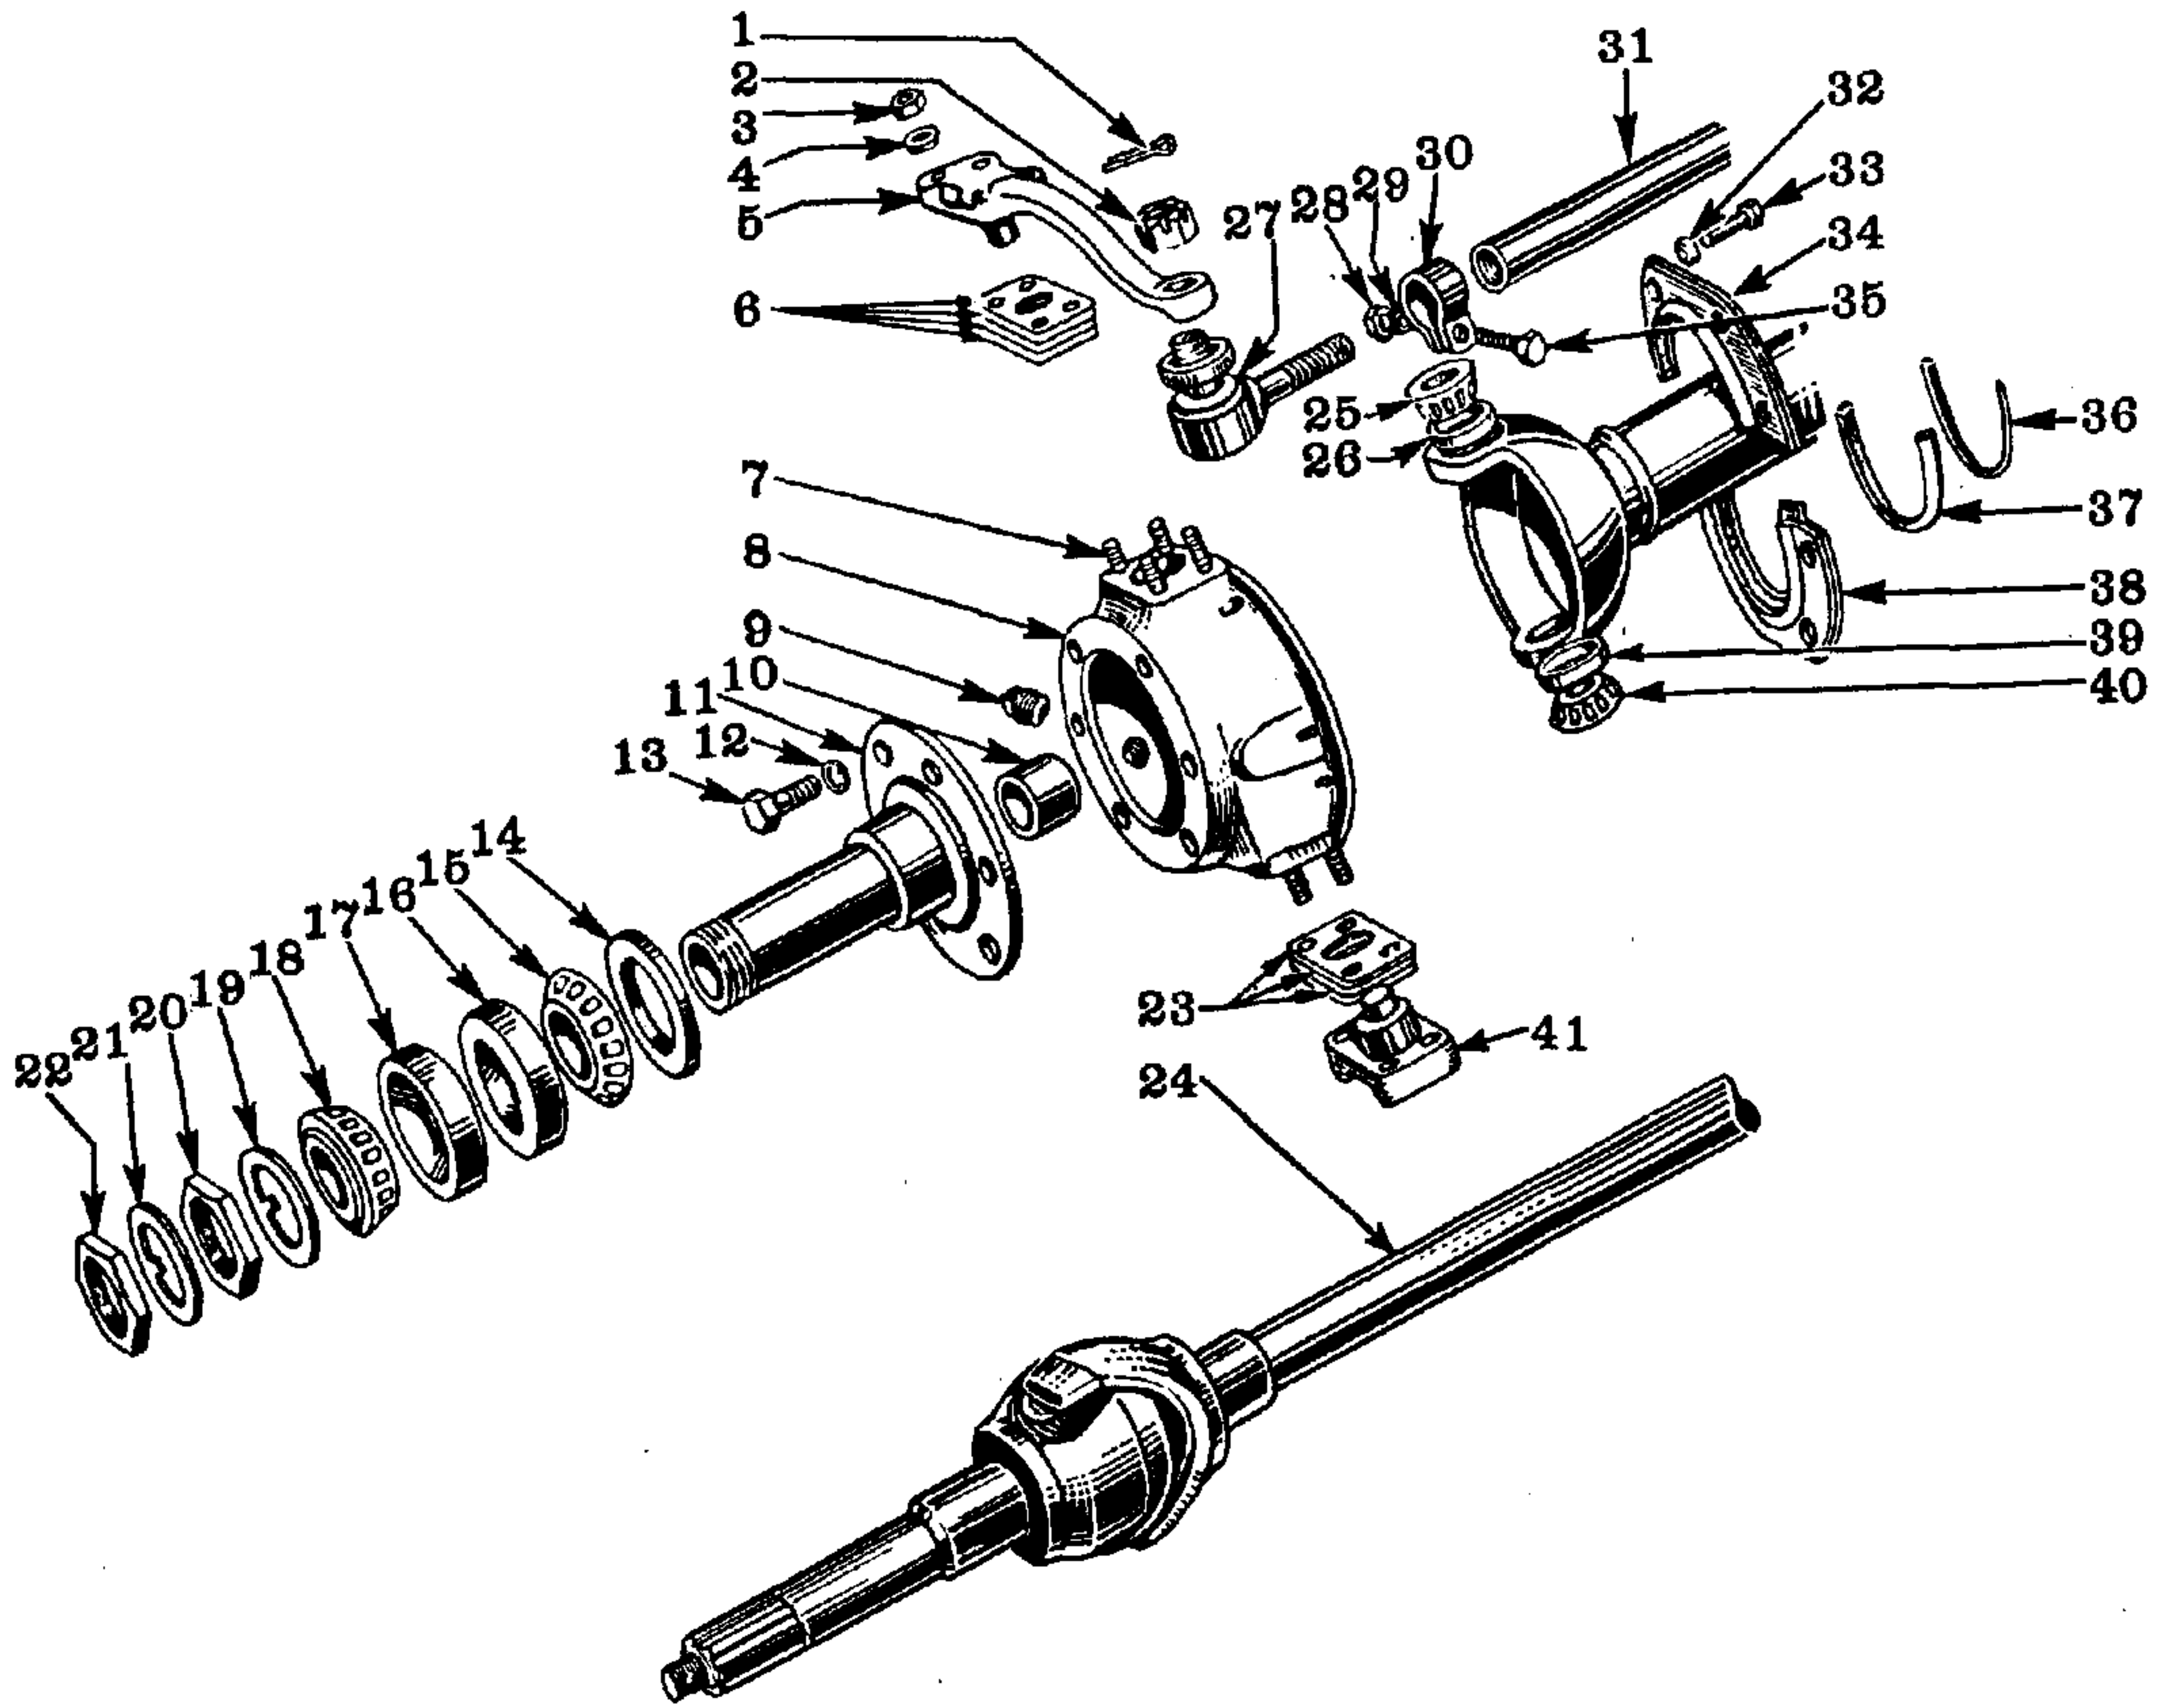

FIG. 2—FRONT AXLE, STEERING KNUCKLE AND WHEEL BEARINGS
To remove axle shaft and universal joint assembly the following operations should be performed. See Fig. 2.
6. Remove wheel bearing nuts and washers, No. 22, Fig. 2. First bend the lip on lock washer, No. 21 away from the nut with a chisel, remove the outer nut, lock washer, adjusting nut and bearing lock washer, Fig. 4. Wrench is furnished in tool kit.
8. Remove brake tube and brake backing plate screws, No. 13, Fig. 2.
5. Grease wheel bearings and assemble bearings, wheel hub and drum on the wheel bearing spindle. Install wheel bearing washer, No. 19, Fig. 2, and adjusting nut, No. 20. Tighten nut until there is a slight drag on the bearings, when the wheel is turned, then back off approximately one-quarter turn. Install lock washer No. 21 and nut No. 22, tightening nut into place and then bending the lock washer over on the lock nut.
1. Remove the eight screws No. 33, Fig. 2 which hold the oil seal retainers in place No. 34 and 38.